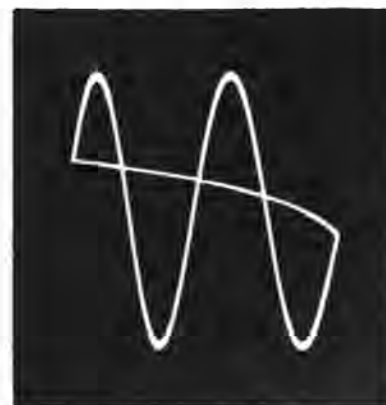

Figure 28. Oscilloscope pattern showing two cycles of a sine wave.
a. It is good practice to set the horizontal frequency control on the oscilloscope so that at least two cycles of the wave form appear on the screen. Figure 28 shows two cycles of a sine wave. Oscilloscopes vary in the number of vertical sweep amplifier stages they include, with the result that some oscilloscopes may produce an inverted image because normally each amplifier stage inverts the signal in polarity. Ordinarily, this is no handicap when examining sine waves or other symmetrical wave forms. However, when doing alinement work with a sweep generator the required response curve will appear inverted on the screen of some oscilloscopes.